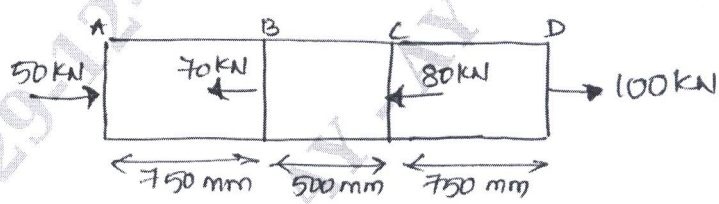

Fig. Q1 (c)
- c. A circular bar of uniform cross sectional area of 1000 mm^2 is subjected to forces as shown in Fig. Q1 (c). If Young's modulus for the material is 200 GPa, determine the total deformation. (08 Marks)